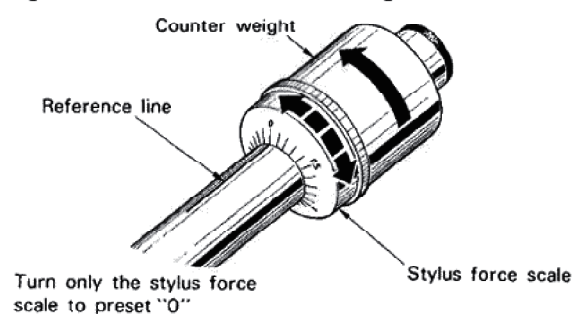

Fig. 11 "0" Balance
- 3) Lower the cueing lever, remove the tonearm from the arm rest, turn the counterweight so that the tonearm will balance horizontally. (If the shell end is down, turn the counterweight opposite the arrow direction shown in Fig. 11, and if the shell end is up, turn the counterweight in the arrow direction in the figure.)
- 4) Keep the counterweight from turning and turn only the stylus force scale until the "0" on the stylus force scale is in line with the tonearm reference line (Fig. 11). (Since the tonearm is brought to horizontal balance at this time, the stylus force will be zero now.)